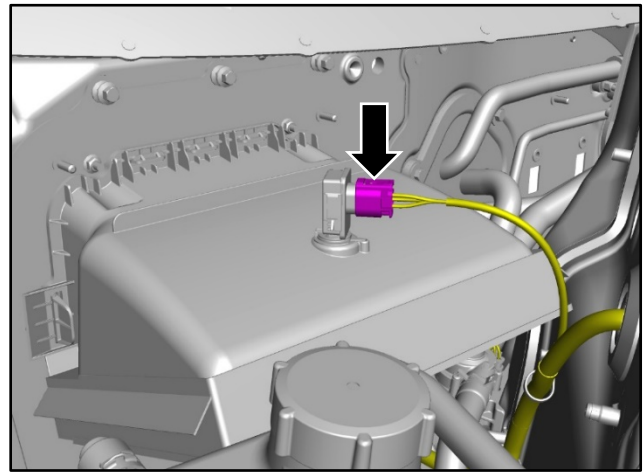

Figure 12
9. Connect the electrical connector. (refer to Figure 12).